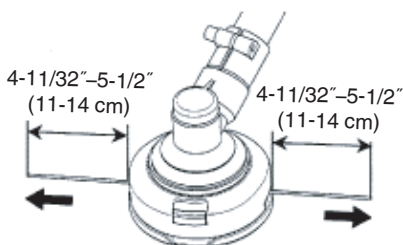

Fig. 31
- (7) The initial cutting line length should be approx. 4-11/32"–5-1/2" (11–14 cm) and should be equal on both sides. (Fig. 31)